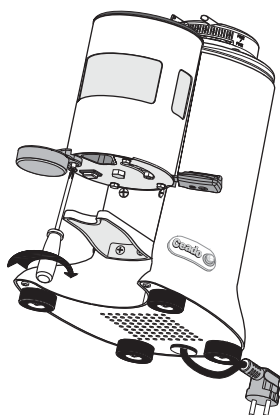

Fig. 11
- 3** Tighten the fastening screw (Fig. 11).